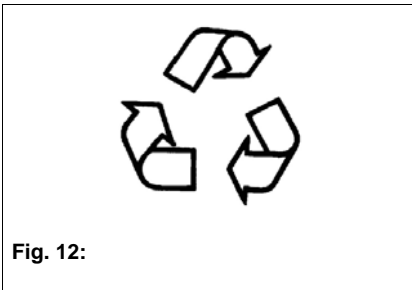

Fig. 12:
- Recycle materials with the label (Fig. 12) attached according to its identification.